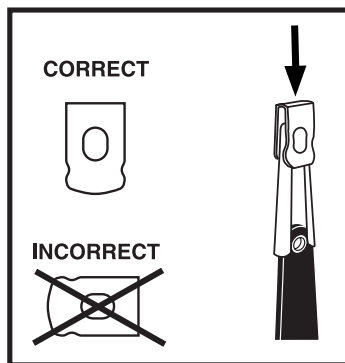

Figure 2. Locking Clip Position
1. Remove packaging and check to ensure the locking clip is in the vertical position. Reposition if necessary. See figure 2.